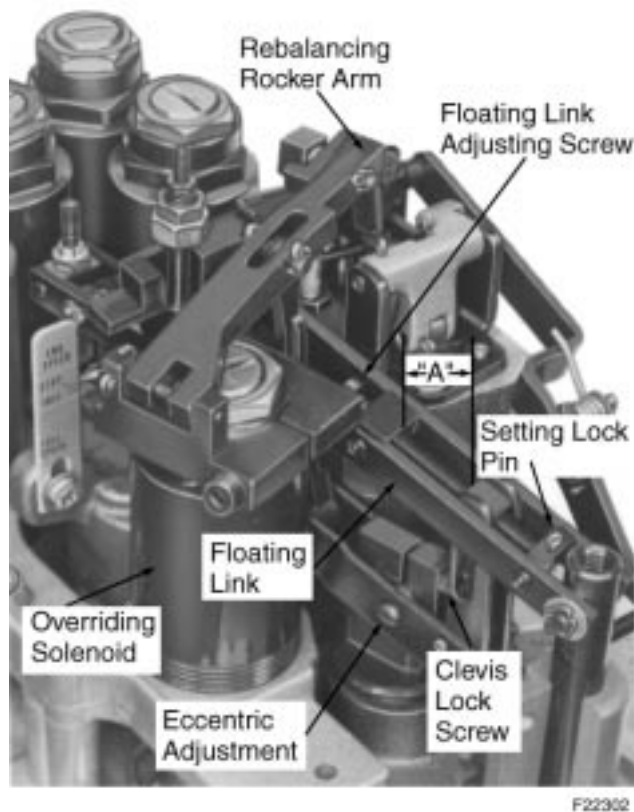

Figure 12-13. Pilot Valve Linkage .
2. Pointer on the test stand servo indicator should be balanced at some point well away from either end of its travel, with the settings as given in step 1. If not, loosen the eccentric clevis lock screw, Figure 12-13 on page 12A-23, and using a screwdriver, adjust the eccentric to bring the pilot valve to the balanced position. Then tighten the clevis lock screw. The pointer of the pilot valve scale should be at "0" with pilot valve balanced. If necessary, relocate the scale to position the pointer at "0."
4. Pilot valve scale pointer should be at "0" or BALANCED position. If the pointer is below the "0" or BALANCED position, remove setting lock pin Figure 12-13, and turn floating link adjusting screw to lengthen dimension "A." If pointer is above the "0" or BALANCED position, dimension "A" should be shortened. On this correction, adjust dimension "A" 1/2 the amount required, then return to the conditions to set "0" or balance as outlined in step 1.